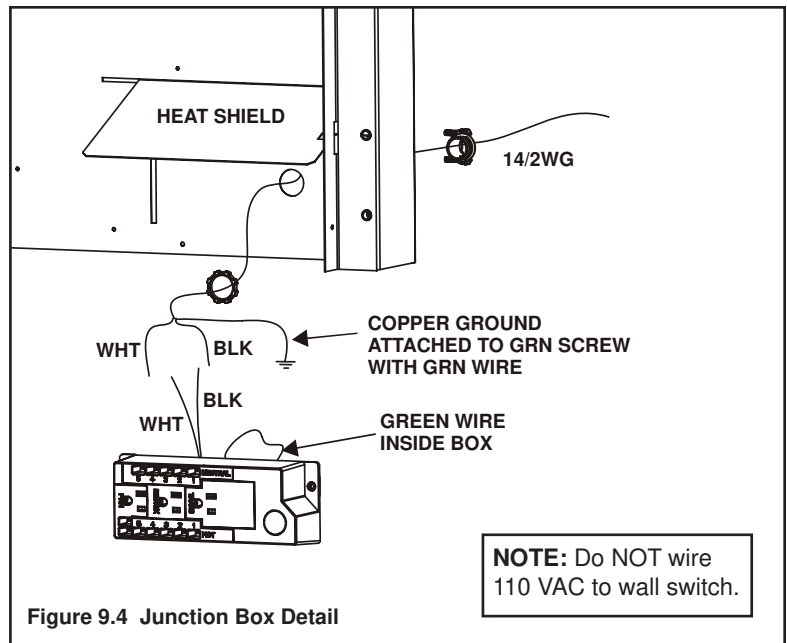

Figure 9.4 Junction Box Detail
- Remove the screw attaching the junction box to the outer shell, rotate the junction box inward to disengage it from the outer shell (see Figure 9.4).